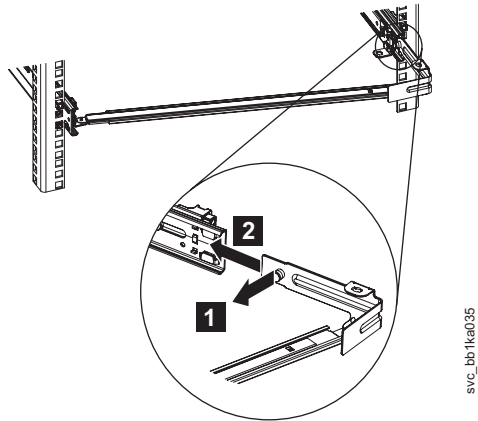

Figure 26. Attaching the free end of the SAN Volume Controller 2145-CF8 support arm
4. To attach the other side of the support arm to the backside of the slide rail, pull the pin out, as shown by **1** in Figure 26 on page 28, and then slide the bracket **2** into the slide rail.